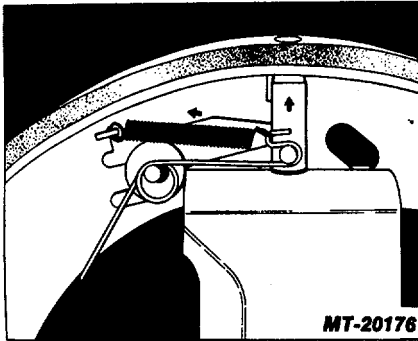

Fig. 7
6. Press lightly upon contact plug to allow wedge to move and fully retract the wedge against the lever pivot pin. In this position, the plug should be even with lining surface + 0.00 to 0.512 mm (+ 0.00 to 0.006 inch) If plug is high, clamp shoe in a vise so that the jaws of the vice bear against the adjuster lever (Fig. 7) and dress down the plug with a file. Take care not to create a flat spot on the lining. An alternate method is to dress the plug when the shoes are ground to a true radius; however, lever must be blocked in its extended position.